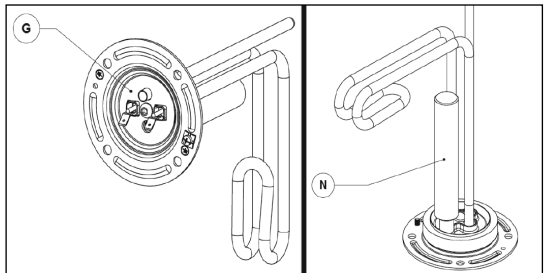

Figure 7 - Heating Element and Anode Rod Detail
The purpose of the anode rod (Figure 7, N) is to protect the tank against corrosion. The anode rod must be inspected once a year to determine whether it requires replacement.
4. Remove and replace the anode rod (Figure 7, N).